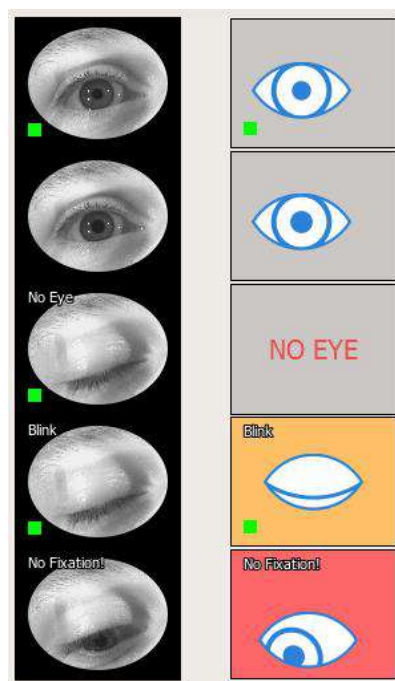

Figure 273. Typical EyeSee (Left) and EyeSee Lite (Right) data set
- EyeSee Lite – the lightweight mode of storing and presenting the eye fixation information from each stimulus exposition. In this method, eye fixation data is presented in the form of generated eye symbols (Figure 273. Typical EyeSee (Left) and EyeSee Lite (Right) data set). The eye images are generated from the numerical eye and pupil tracking data (eye position, gaze direction, pupil diameter). There is no recording of eye images to the database. This mode allows to keep the examination data small while providing the essential information about eye fixation throughout the test.